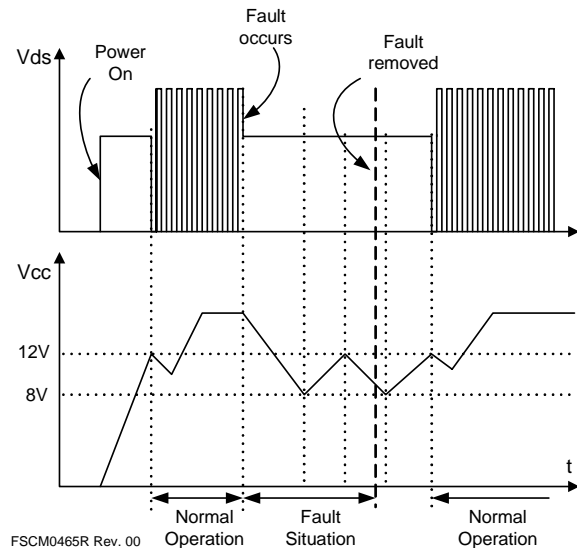

Figure 20. Auto Restart Operation
3. Protection Circuit: The FSCM0465R has several self-protective functions, such as overload protection (OLP), over-voltage protection (OVP) and thermal shutdown (TSD). Because these protection circuits are fully integrated into the IC without external components, the reliability is improved without increasing cost. Once the fault condition occurs, switching is terminated and the SenseFET remains off. This causes V_{CC} to fall. When V_{CC} reaches the UVLO stop voltage of 8V, the current consumed by the FSCM0465R decreases to the startup current (typically 20 μ A) and the current supplied from the DC link charges the external capacitor (C_a) connected to the V_{CC} pin. When V_{CC} reaches the start voltage of 12V, the FSCM0465R resumes normal operation. In this manner, the auto-restart can alternately enable and disable the switching of the power SenseFET until the fault condition is eliminated (see Figure 20).